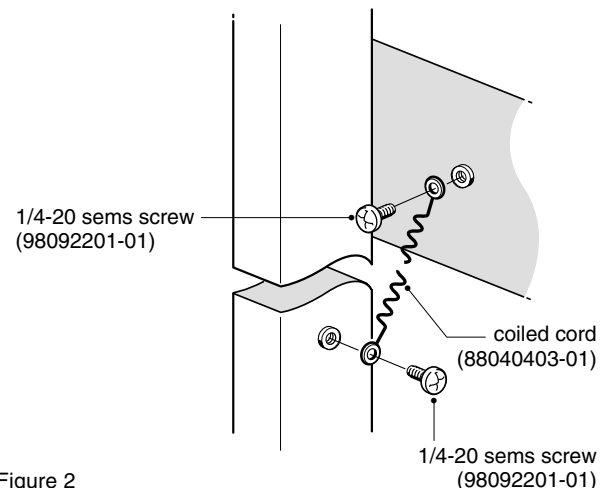

Figure 2
1. Using the 1/4-20 x 5/8" sems screws provided, attach one end of the coiled cord to the threaded insert located on the back side of shelf and the other end to a selected ESD ground path means. (Figure 2)